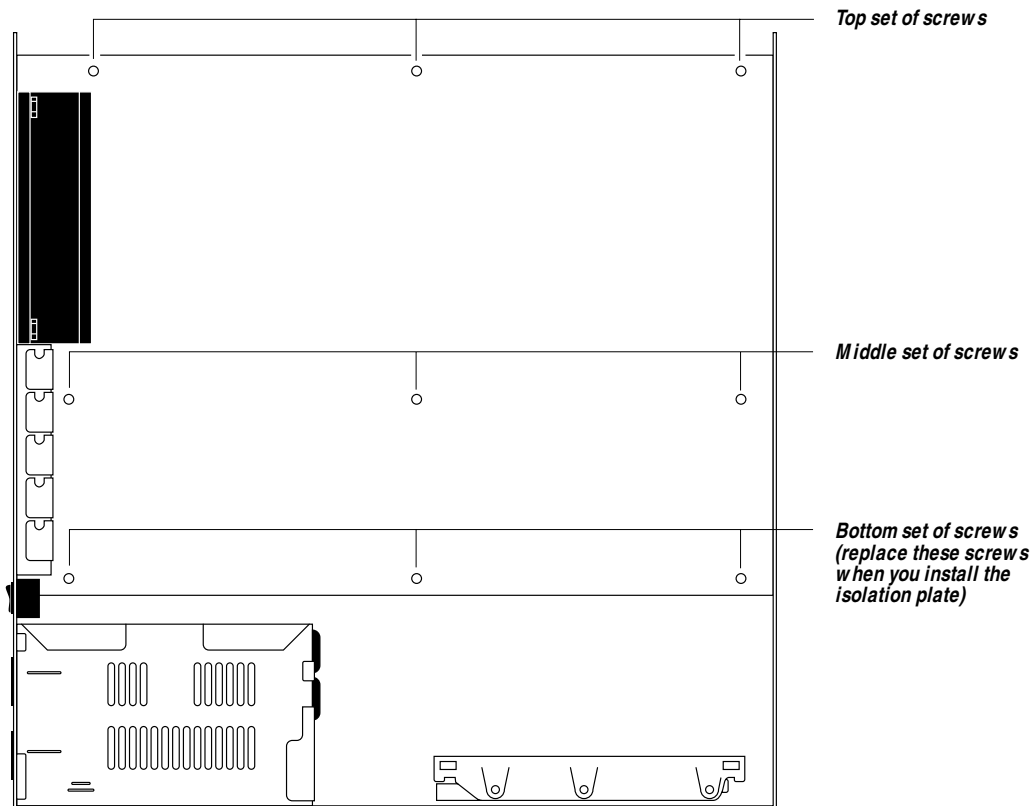

Figure 5-21 Motherboard screw positions on the chassis
3. ***Position the center mounting screw hole in the motherboard over the center mounting screw hole in the chassis (see Figure 5-21 on page 5-28 for screw positions on the Fiery XJ BP100 chassis).***
5. ***Insert screws in the top and middle set of screw holes and tighten them (see Figure 5-21 on page 5-28).***